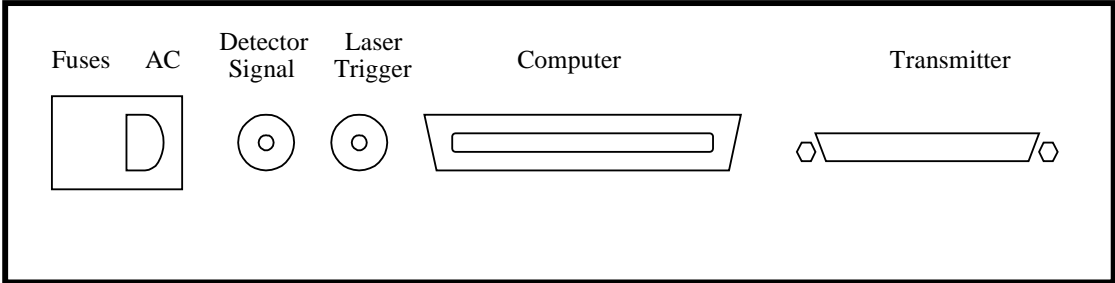

Figure 1. Back side of MPL Scaler & Control
1. Examine Figure 1 while looking at the backside of the MPLHR Scaler & Control, identifying each connection.
1. Figure 1. Back side of MPLHR Scaler & Control